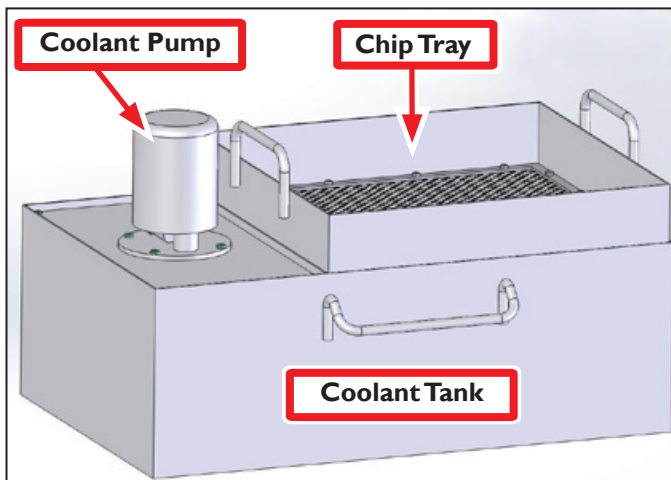

Figure 2
1. Remove accessories from Coolant Tank's Chip Tray; set aside (see **Figure 2**).